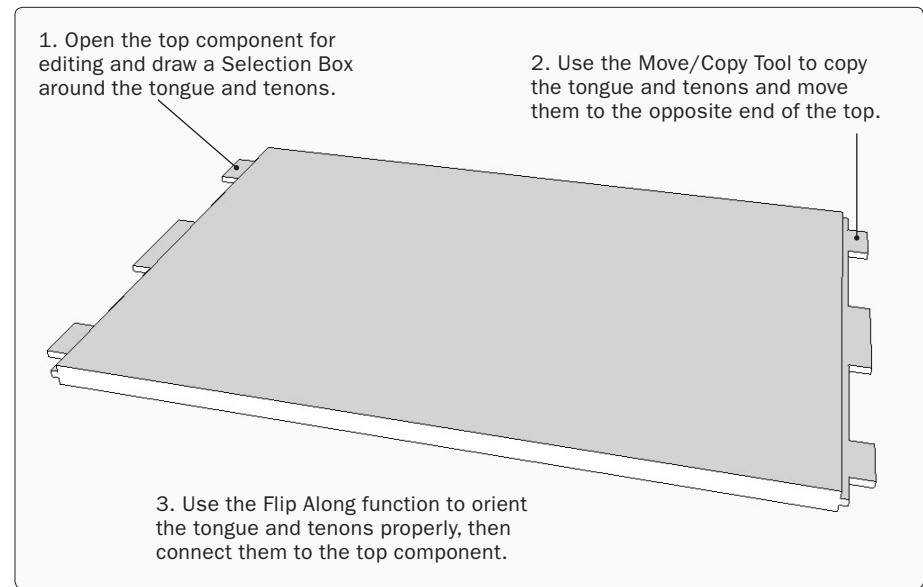

Figure 40. Copy the tongue and tenons and move them to the opposite side to finish the top component.
Step 36 As you did when making other tenons, copy the tongue and tenons and move the copy to the opposite end of the top. Use the Flip Along command to orient the tenons and tongue properly, then connect the copy to the top, as shown in Figure 40. When you have finished placing the tenons, delete the copy of the top component.